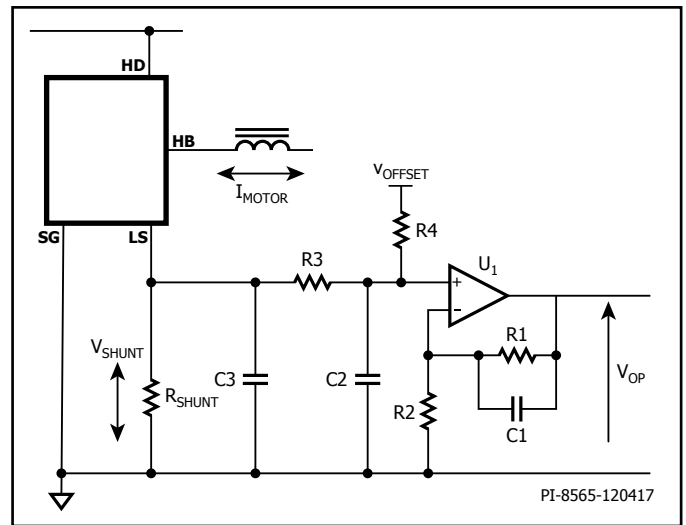
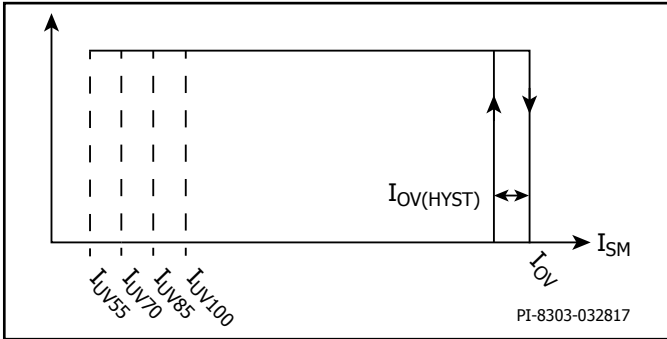

Figure 14. External Current Sense Example Circuit (BRD116X).
Figure 16. System Monitor Input Current Thresholds.
BRD116X devices support discrete low-side FREDFET current sensing through an external current sense resistor in series with the LS pin. Figure 14 depicts one possible implementation example.
BridgeSwitch features system level monitoring through the SYSTEM MONITOR input. The SM pin supports monitoring either the high-voltage (HV) DC bus (see Figure 14) or the temperature of an external component through an NTC thermistor (see Figure 16). The SM pin is self-configuring. It automatically detects the type of external connection and locks in the respective circuitry configuration at power-up.
The bus voltage sensing circuitry has five distinct current thresholds as shown in Figure 16. Thresholds  $I_{UV55}$ ,  $I_{UV70}$ ,  $I_{UV85}$ , and  $I_{UV100}$  are used to detect high-voltage bus undervoltage conditions. Threshold  $I_{OV}$  is used to detect a high-voltage bus overvoltage condition. The device reports a high-voltage bus fault through the STATUS COMMUNICATION pin anytime the current into the SM pin either drops below one of the four undervoltage thresholds or if it exceeds the overvoltage threshold (see Table 4 for details).